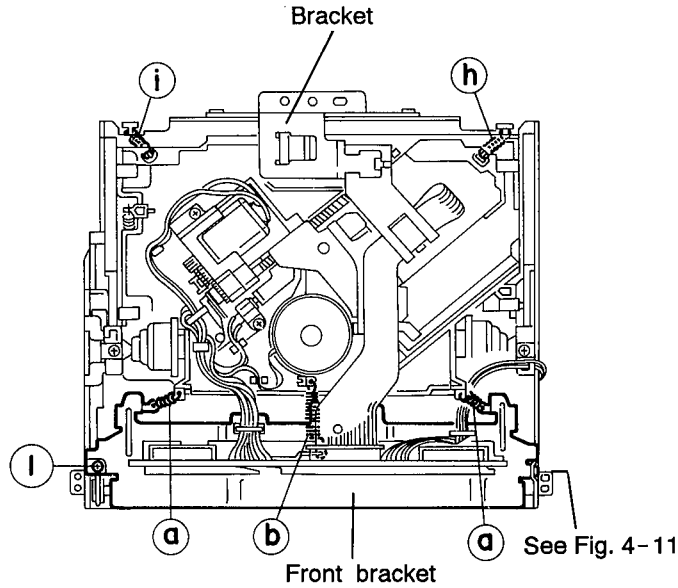
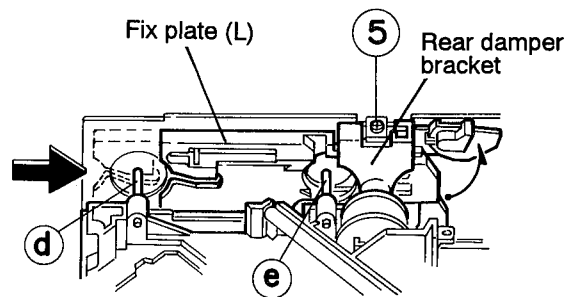

Fig. 4-10
Fig. 4-17
5. Remove the three springs ① and ② from behind the CD mechanism assembly (See Fig. 4-10).
7. Remove the two screws ① retaining the front bracket for fixing the CD mechanism control P. C. board (See Fig. 4-10).
2. While shifting the fix plates on the right and left sides respectively to the arrow direction, lower the entire CD mechanism. When the shafts (㉞, ㉟, ㊱ and ㊲) on both the right and left sides have been set free as shown in Figs. 4-17 and 4-18, then the assembly can be removed easily. Remove the two screws ⑤ retaining the rear damper bracket to make it easier to remove the damper from the rear damper bracket (See Figs. 4-10, 4-17 and 4-18).
3. Remove the two springs ㉞ and ㉟ as shown in Fig. 4-10, 16.